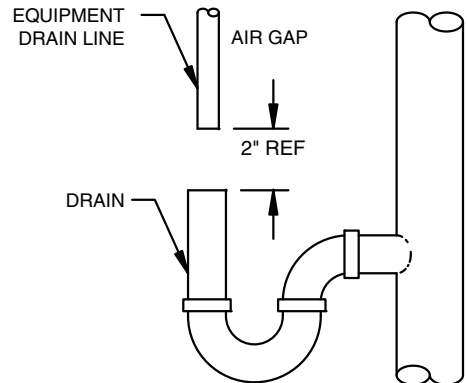

Figure 6: Drain
- d) Repeat steps (a) through (c) until proper setting is obtained. The optimum cycle time is 60 seconds or more, with an air draw of 20 seconds minimum. Position DRAIN LINE over drain and secure firmly. To prevent back-siphoning of sewer water, provide an air gap of at least 2 inches or 2 pipe diameters between end of drain hose and drain (Figure 6). Do not raise DRAIN LINE more than 10 ft. above floor.
Position the DRAIN LINE over the waste drain pipe and secure firmly. To prevent back siphoning of sewer water or grey water, provide an air gap of at least two inches or 2 times the pipe diameters between the end of drain line tubing and waste drain (Figure 6). Do not raise the DRAIN LINE more than 10 feet above the floor. Check with local code officials to ensure you conform to local, state and national plumbing codes.